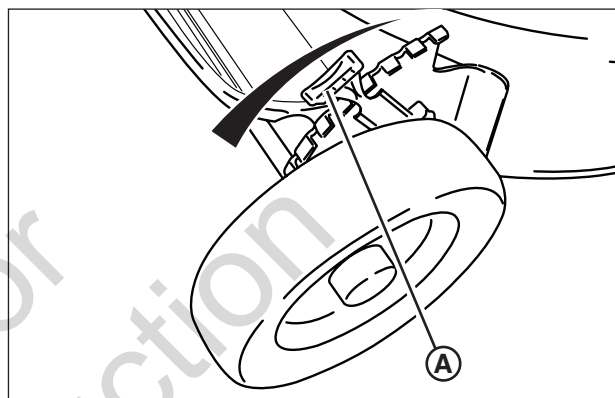

Figure 6: Adjusting cutting height
1. Pull the height adjusting latch (**A, Figure 6**) outward and move to the desired cutting height.